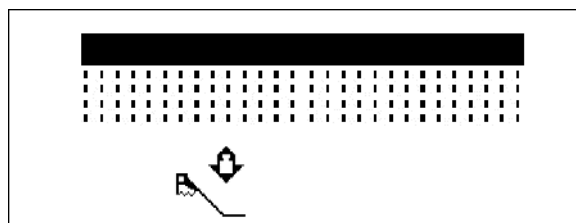

Fig. 48
1. Preselect coulter pressure (Fig. 48).
1. Preselect coulter/harrow pressure (Fig. 48).